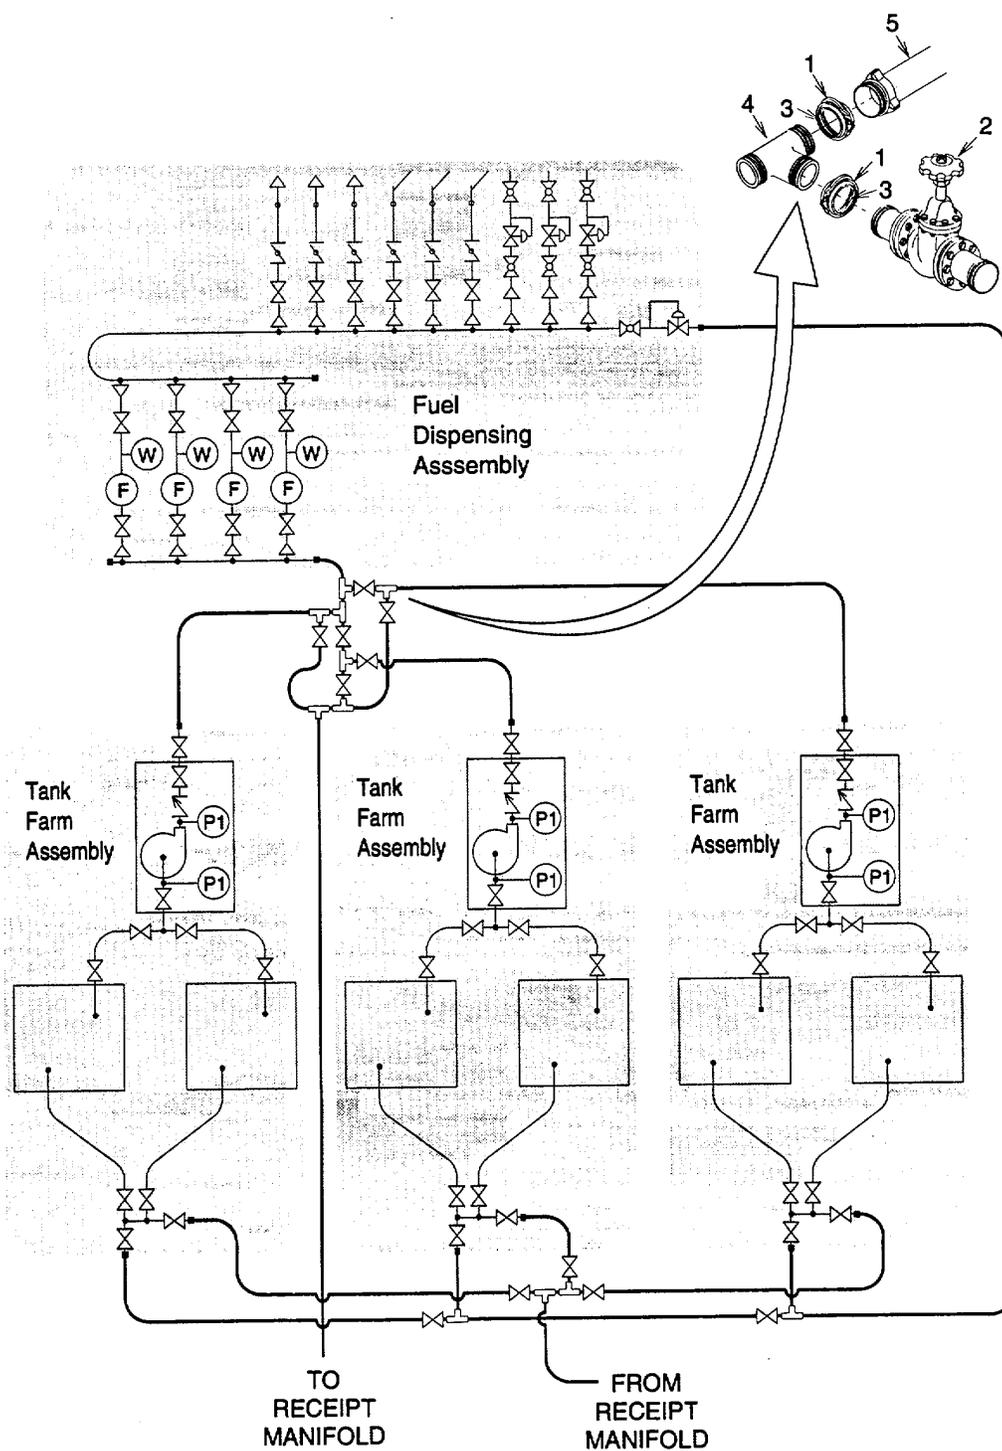

Figure 4-13. Transfer Hoseline Typical Valve and Tee Arrangement
- b. Position containers storing 6-inch tees and gate valve assemblies near their respective installation sites as indicated in (figure 4-13).